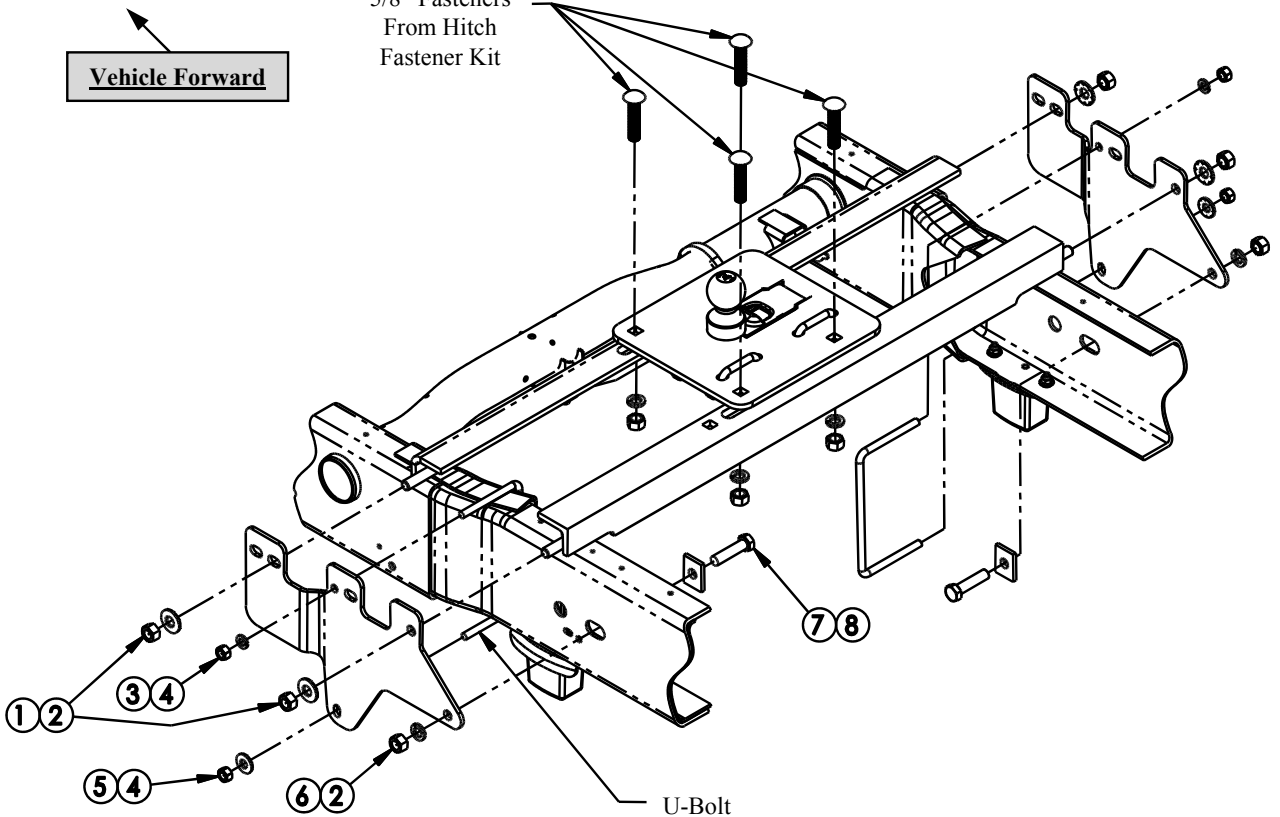

Figure 6
7. Line up the mounting holes on the frame brackets with the threaded studs on the ends of the rails. See Figure 8 to identify which holes on the frame brackets to use. Loosely attach frame brackets to rails with 5/8" hex nuts and conical toothed washers as shown in Figure 6.
8. Use the U-Bolts to loosely attach the frame brackets to the frame as shown in Figure 6.
9. Loosely attach the frame bracket to the frame through the slot in the frame using the 5/8" x 2-1/2" bolt, lock washer and nut as shown in Figure 6.